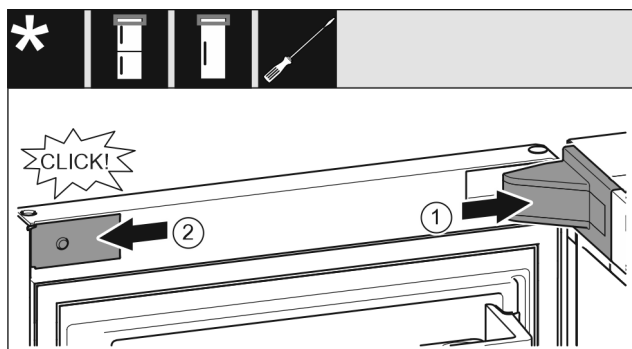

Fig. 23
- ▶ Put the swap bearing block cover Fig. 23 (1) on and engage, push apart carefully if required.
- ▶ Place the trim Fig. 23 (2) on the side and engage.